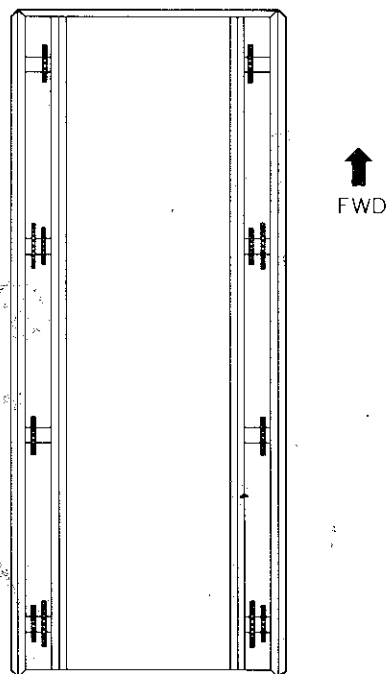

Figure VII-6 Axle Sprocket Locations
- Hold the sprocket assembly in position between the two bearings with the sprocket inboard (See Figure VII-6).